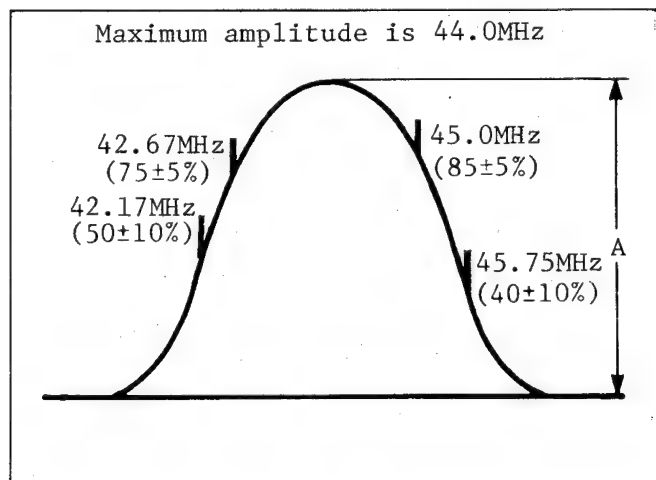

Fig. E24
12. Adjust the tuner converter coil (L23) on the UHF/VHF tuner unit so that the sweep output waveform is as shown in Fig. E24.